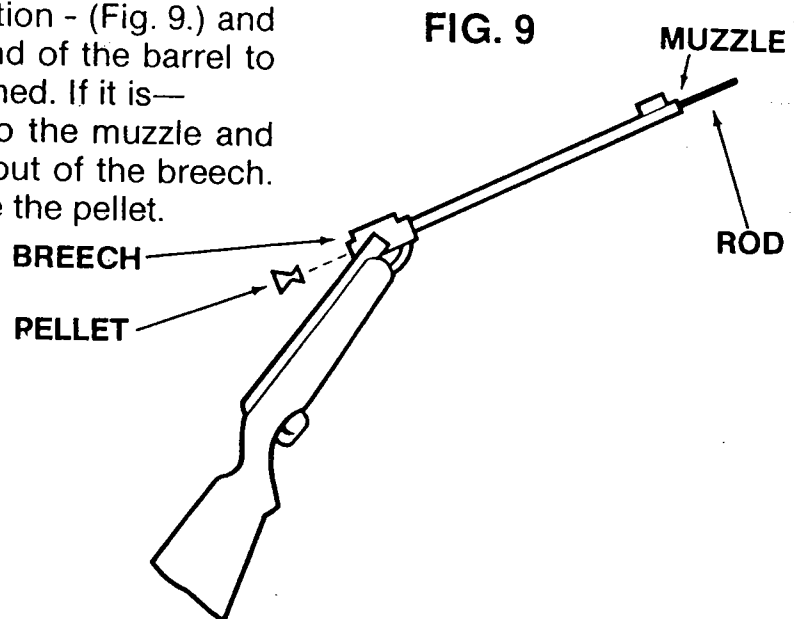

FIG. 9
- Break the barrel action open slightly (without pulling the barrel all the way down to the point that it cocks the action - (Fig. 9.) and look down the breech end of the barrel to see if the gun is still jammed. If it is—
- Insert a cleaning rod into the muzzle and push the jammed pellet out of the breech. (Fig. 9.) Don't try to reuse the pellet.